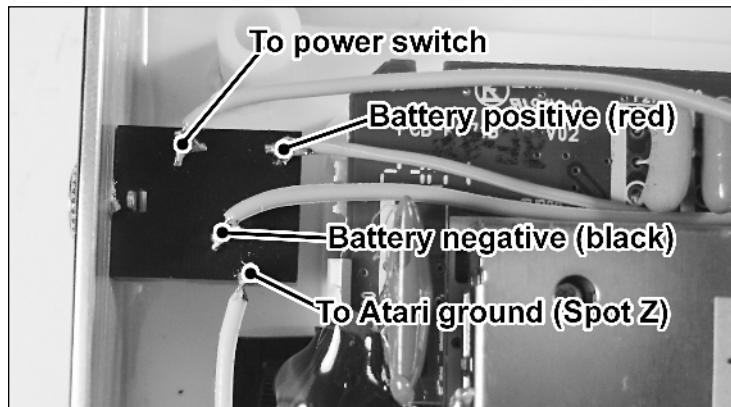

FIGURE 16-12: Connections to the DC AUX input jack.
1. Connect the positive and negative battery wires to the DC AUX input jack, as shown in Figure 16-12. You'll have to extend the existing battery holder wires to do this. Be sure to cover the extension connection with electric tape to avoid zapping things.